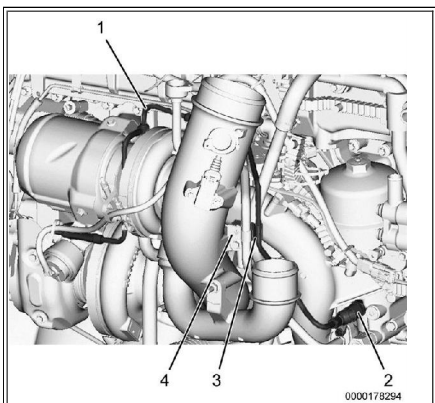

Figure 11: Turbo Oil Supply Tube Position.
20. Remove M8 bolt from heater and cooler line brackets (Figure 11, Item 4) and discard.
21. Align turbo oil supply tube (Figure 11, Item 1) with oil supply T-fitting (Figure 11, Item 2) and turbocharger oil supply openings.
23. Position turbo oil supply tube bracket (Figure 11, Item 3) BETWEEN heater and cooler line brackets (Figure 11, Item 4).